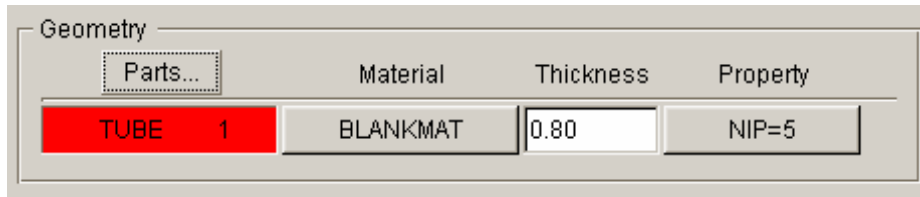

Figure 3.11 Tube definition
6. Click the **Exit** button to return the tube definition interface. Now, the color of Blank tab is changed to from RED to BLACK. See Figure 3.11.